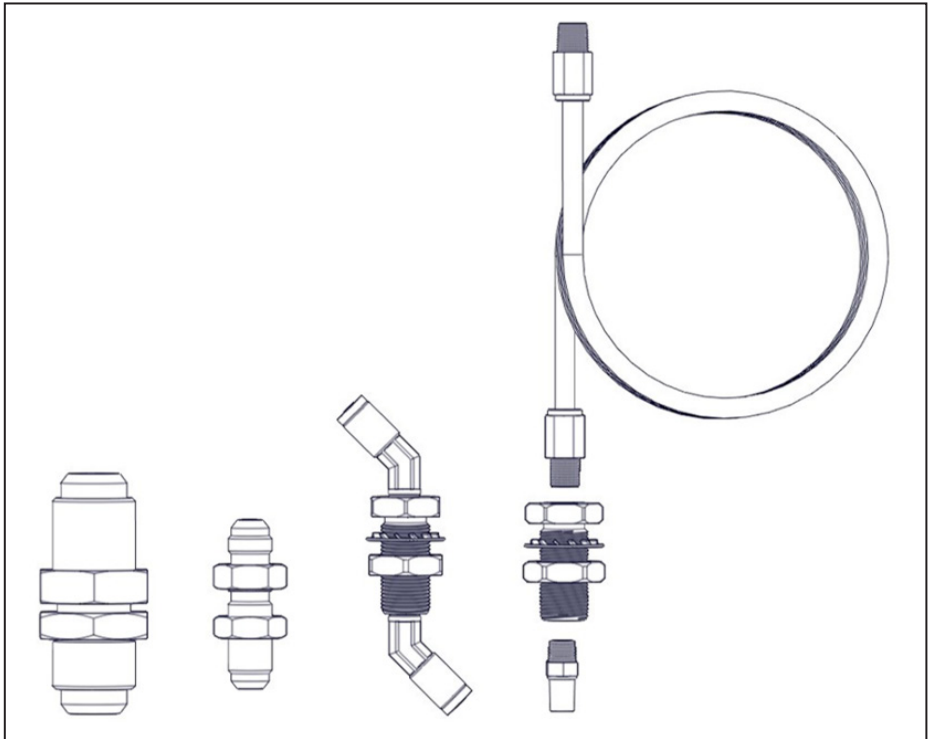

Figure 34 — Bulkhead fittings
4 bulkhead fittings are supplied with the system (Figure 34):
- Connect the 90° fitting on the 3/4 in x 28 in hose to the #12 JIC fitting (air/oil inlet) on the cooler above the fan (Figure 34).
- Connect the 90° fitting on the 3/8 in x 28 in hose to the #6 JIC fitting (oil return fitting) beneath the oil filter on the tank (Figure 34).